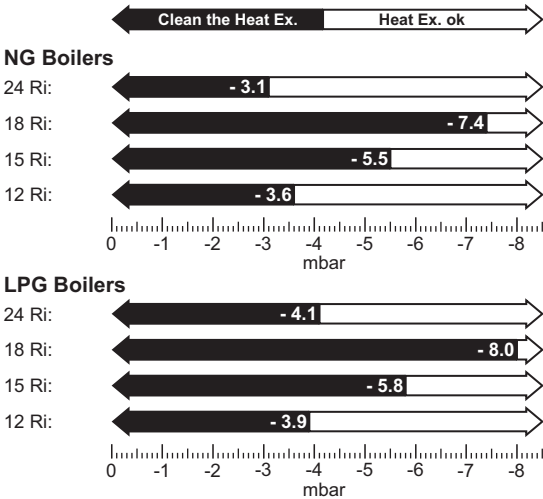

Fig. 54 Fan pressure readings
- ▶ The pressure will read negative, refer to the chart in figure 54.